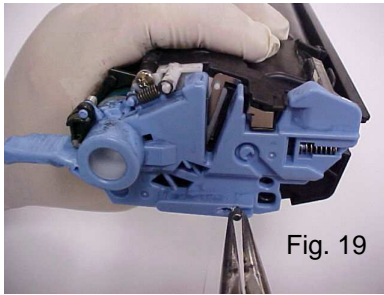

Fig. 19
1. The metal pin in (Fig. 19) is part of the contact assembly. Make sure to test for conductivity after reassembly. Poor or no conductivity will result in print defects.